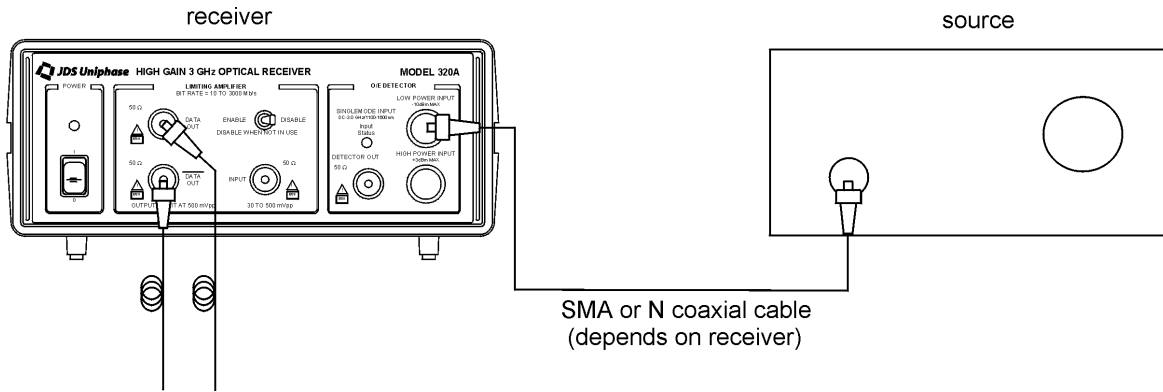

Figure 7: Testing a Source (connection to Low Power Input port shown)
2. Connect the source to the appropriate input and terminate the outputs (Figure 7). The limiting amplifier oscillates if an input is not connected and the outputs are not terminated. This oscillation introduces noise into the O/E Detector, reducing the signal-to-noise ratio of the output (Detector Out port).